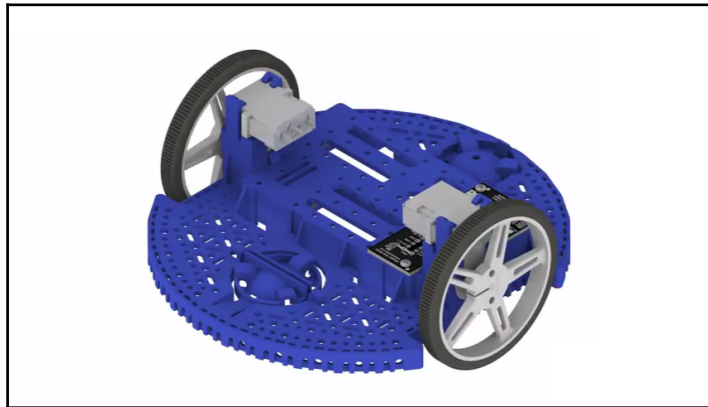

Figure 6.16: The completed wheel assembly. Image courtesy of Pololu—<https://www.pololu.com>
3. Repeat the preceding steps to assemble the other wheel on the base plate with the motor clip and the gear motor (*Figure 6.16*):